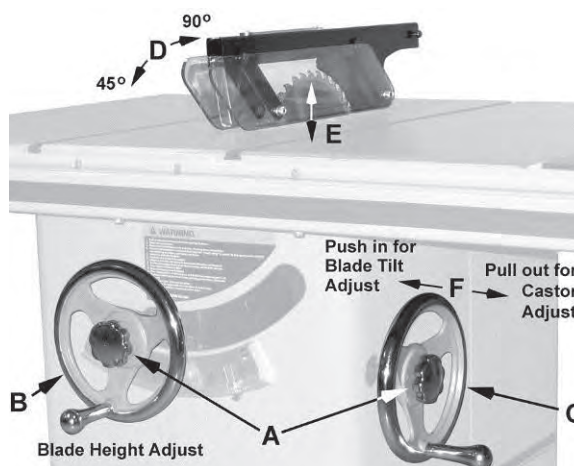

Figure 11
Referring to Figure 11:
5. With the *height adjust handwheel* (B, Fig. 11), lower the saw blade all the way.
6. With the *height adjust handwheel* (B, Fig. 11), adjust height of the saw until the top of the saw blade is 1/8" below the top of the table.